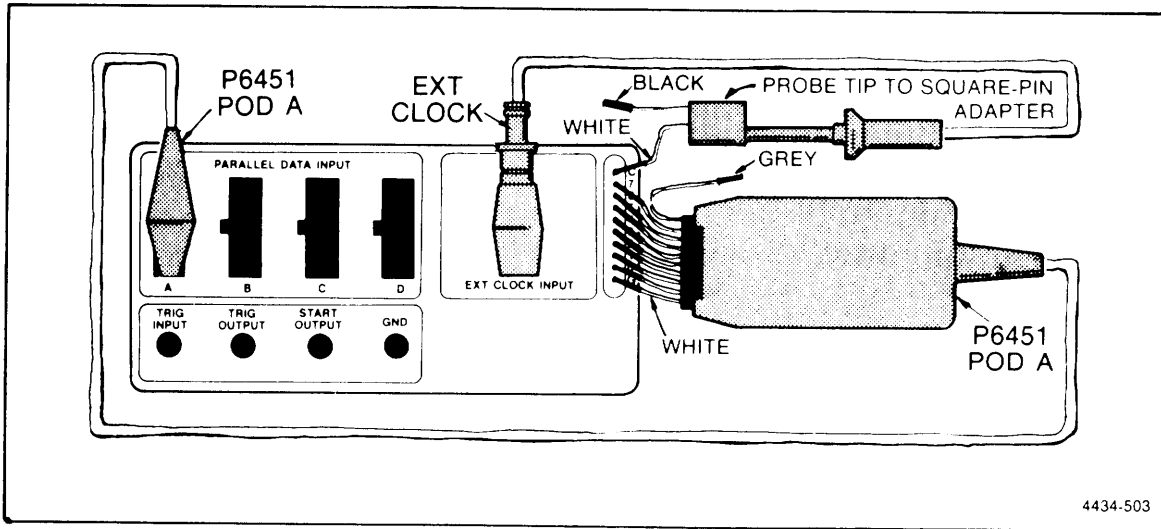

Figure 5-9. 318 Parallel data acquisition check setup.
- a. Power-up the 318 and connect the P6107 External Clock probe tip to TEST OUTPUT-C on the right side panel. Refer to Figure 5-9.